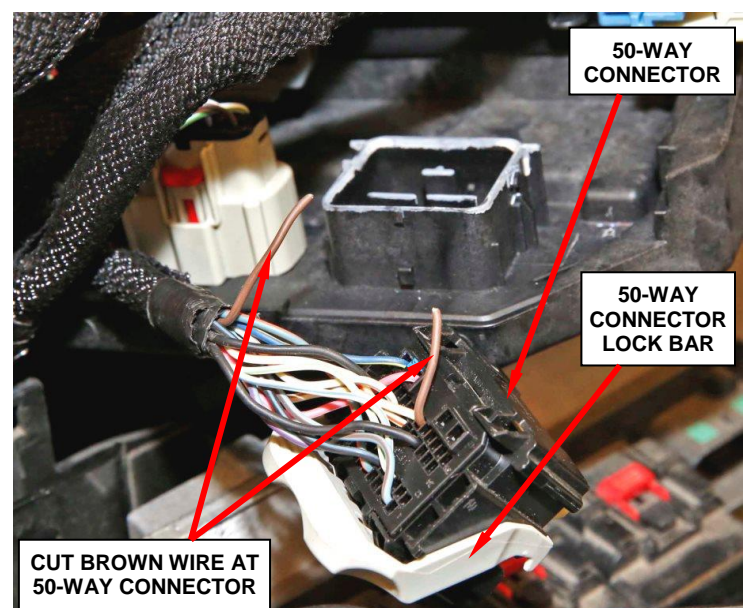

Figure 7 – Cut the Brown Wire One Inch From Connector
9. Cut the brown wire one inch (25 mm) from the 50-way electrical connector (Figure 7).